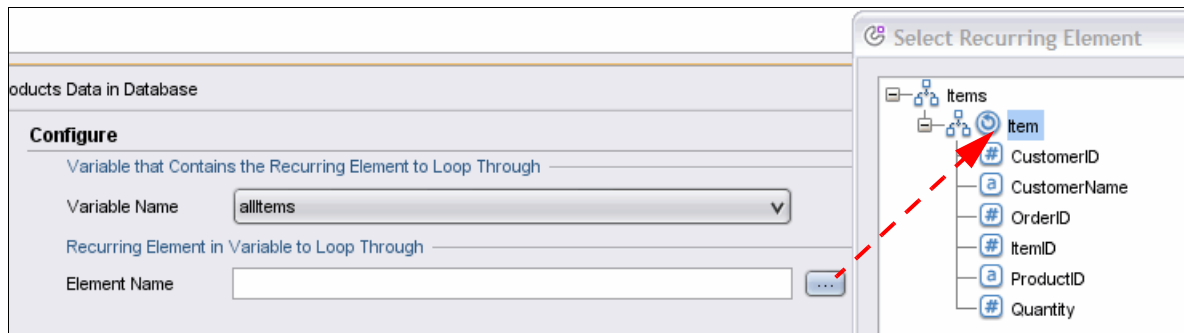

Figure 12-53 Configure settings
- b. For the Element Name field, click the ellipsis, and select **Items** → **item**. Refer to Figure 12-53 on page 498.